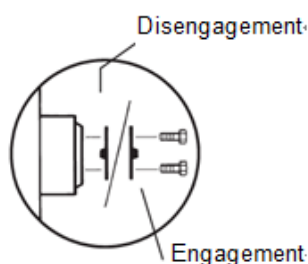

Fig10-1 Brake release
- 2) Turn over all driving wheel hub separating covers to release wheel brakes, as shown in Fig10-1.